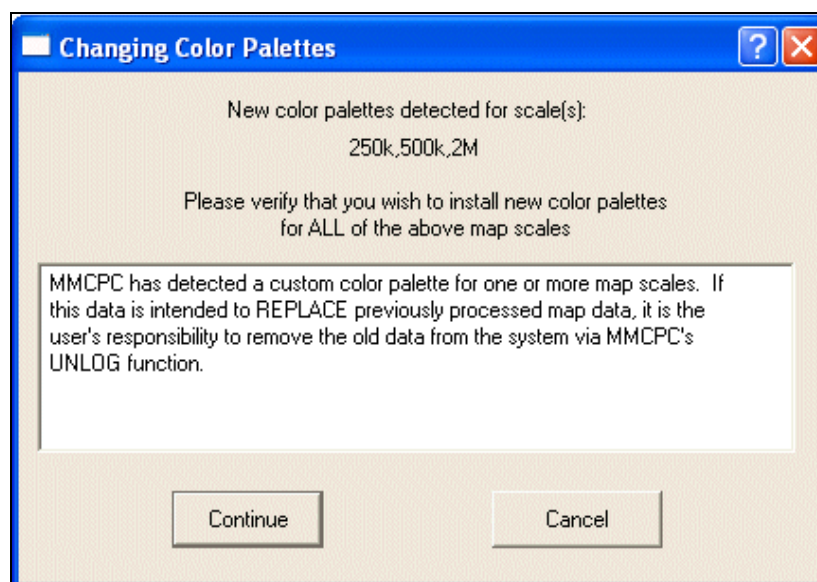

Fig. 45 — Color palette informational message
4. If the source map data contains custom color palettes, a message is displayed to inform the user that new color palettes were detected for the appropriate map scales and note the possible repercussions of installing new color palettes (Fig. 45). Note: MMCPC does not unlog or remove obsolete map data from the system. This message informs the user that if the new data to be processed is meant to replace another set of processed CADRG, then the user should remove the obsolete data via the *Unlog* function. Click Continue to use the modified color palettes.